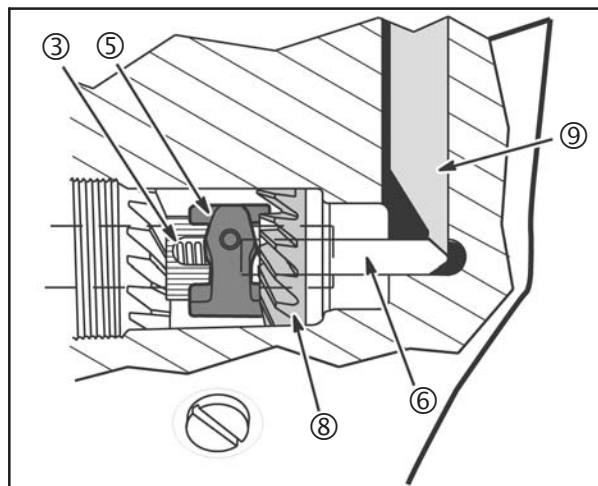

Fig. 8 – Forward
When the shifter is set to the FORWARD position, the shift cam (Figure 8) ⑨ is pulled to its highest